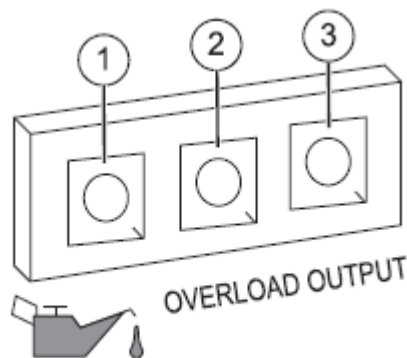

Figure-7 Status Indicators
3.4 GENERATOR STATUS LIGHTS: See Figure-7.
- * **OVERLOAD LED (RED):** Indicates system overload (2). During motor starting it is normal for the overload LED to illuminate for a few seconds. If LED stays illuminated and the ready LED turns off, the engine will continue to run without output power. Remove all applied loads and determine if attached devices exceed recommended output power. Check for faulty or shorted connections. To restore electrical output, turn dial “OFF” to reset. Start engine. If condition was corrected, the orange LED will not illuminate and electrical output will be restored. Loads can be applied once the green LED illuminates. If the orange LED returns contact an ASD.
- * **LOW OIL LEVEL LED (Yellow):** Illuminates when oil level is below safe operating level. Engine shuts down (1).
- * **POWER LED (Green):** Indicates output from generator (3) (unless there is a low oil or overload condition).